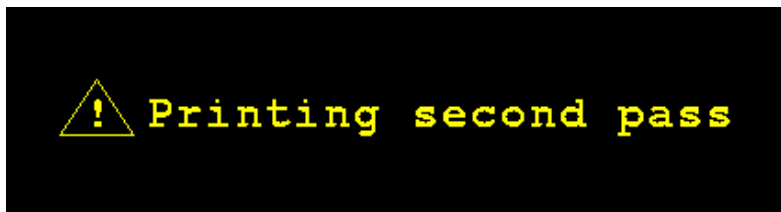

Figure 8: Printing a second pass ticket
7. Touch the **PRINT** button to print a second pass ticket (Figure 8) and delete the temporary ID/Truck
2. Touch the **PRINT** button to print a second pass ticket (Figure 8).
3. Touch the **PRINT** button to print a second pass ticket (Figure 8).